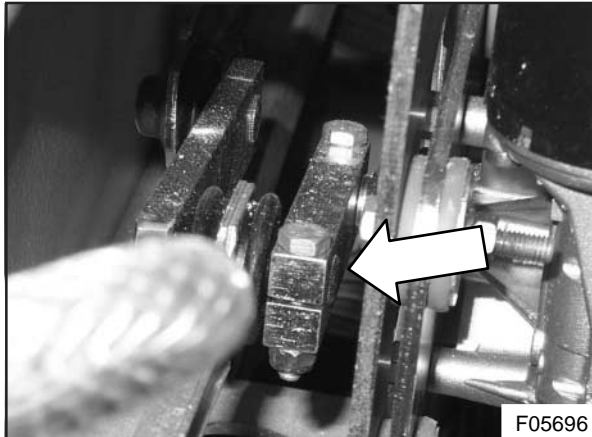

Figure 13: Linkage installed horizontally
- 2) Install the clamp horizontally on the wiper motor shaft with the knuckle joint mounting hole pointing towards the driver's seat (see Figure 13). Make sure the motor shaft end is *flush* with the clamp.
- 5) Push the knuckle joint in the splined hole of the clamp so that both are parallel and horizontal (see Figure 13).